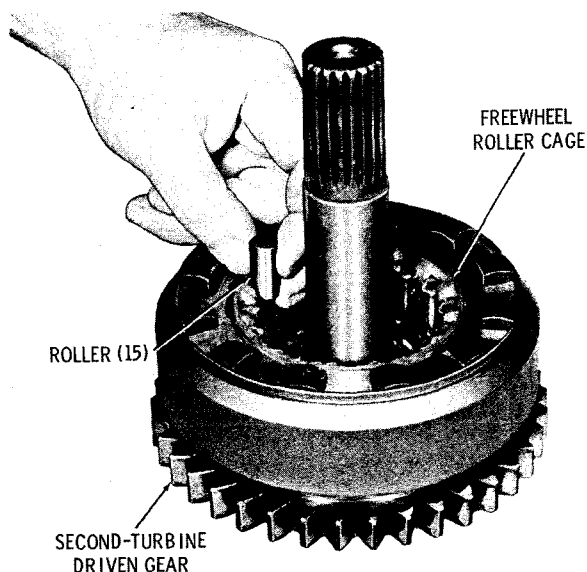

Fig. 6-14. Installing roller into roller cage
(7) Install fifteen rollers into the cam pockets; use oil-soluble grease to retain the rollers in the cage (fig. 6-14).